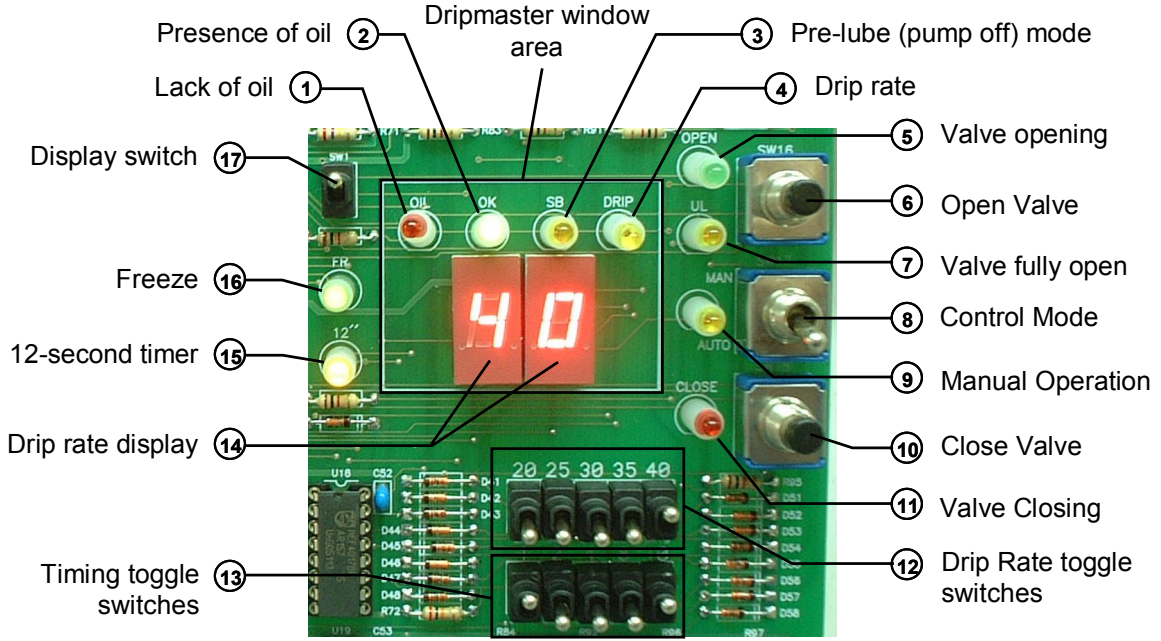

Figure 7: Dripmaster control panel
Make sure the Control Mode toggle switch SW17 is in the lower **AUTO** position (item 8 in Figure 7), so that the Dripmaster automatically stabilizes the preset drip rate. At the end of each 60 second interval, a short correction command is given only if there is a deviation from the desired preset drip rate.
During normal operation (when the well pump is operating), the drip rate is selectable for drip rates of 20, 25, 30, 35, or 40 drips/minute (Figure 7).
The **OPEN** and **CLOSE** LEDs indicate whether the needle valve is opening or closing. See items 5 and 11 in Figure 7 on page 13.
Select the manual mode by switching the Mode toggle switch to the upper **MAN** position (Figure 7). This mode bypasses the electronic control circuitry, and allows the operator to modify the drip rate by using the Open Valve (manual) and Close Valve (manual) push buttons.
A two-digit display is visible in the Dripmaster display window (see Figure 7 on page 13)—this is a drip counter that freezes for six seconds for each one minute interval and indicates the number of drips applied during the previous minute (Freeze mode).